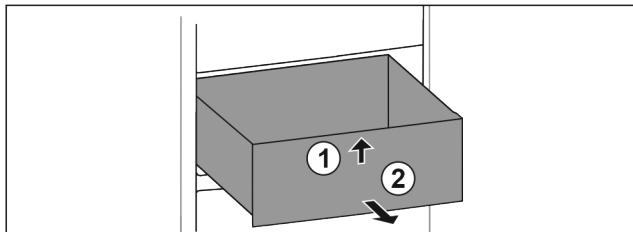

Fig. 93
- Lift up drawer at the front. Fig. 93 (1)
- Remove drawer to the front. Fig. 93 (2)